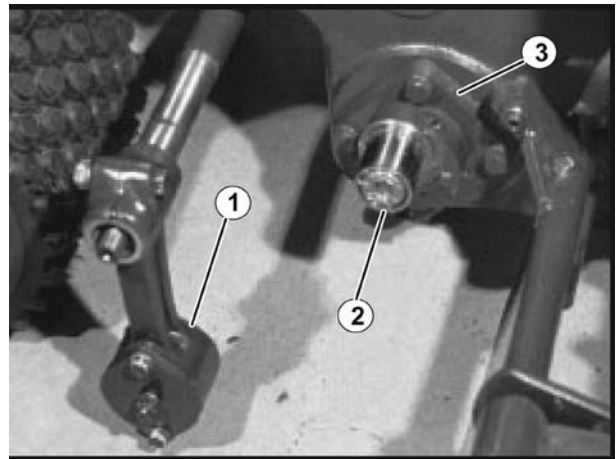

FIGURE 6
10. Loosen the clamp screw on the pitman arm **1** and the clamp screw on eccentric assembly **2**. Remove from shafts. (Figure 6)